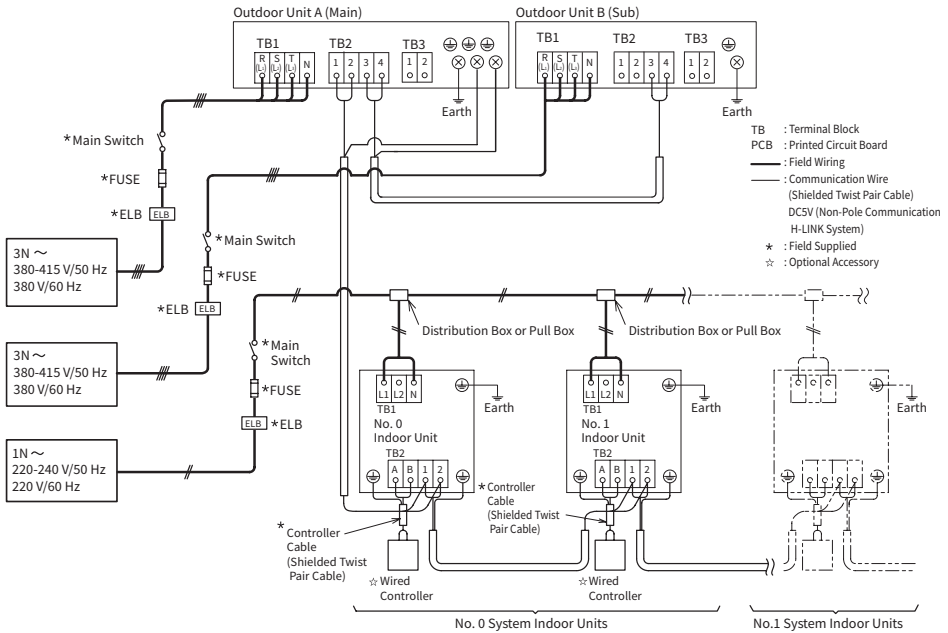

Fig. 6.1 Instruction for Electrical Wiring Connection
3. Connect the communication wiring between indoor units and outdoor units, as shown in Fig. 6.1.